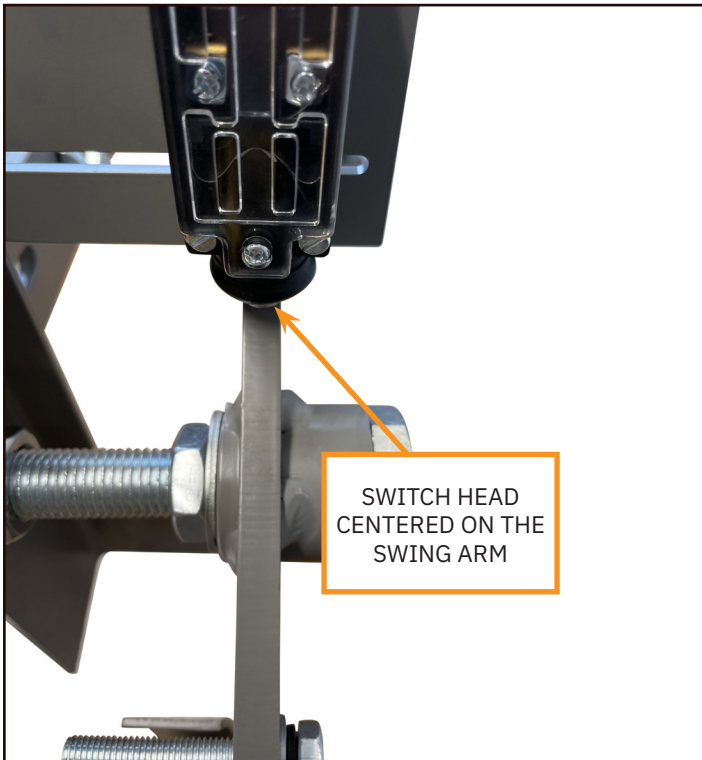

Figure 6
12. Positioning the slack rope switch above the swing arm, align the switch head to be centered on the swing arm (see figure 6) and secure the switch with the provided hardware thru the slotted holes to the angular contact bracket.
4. Remove the slack rope switch from the angular contact bracket and reinstall it on the opposite side. Ensure the switch head is aligned with center of swing arm (*see figure 6*).